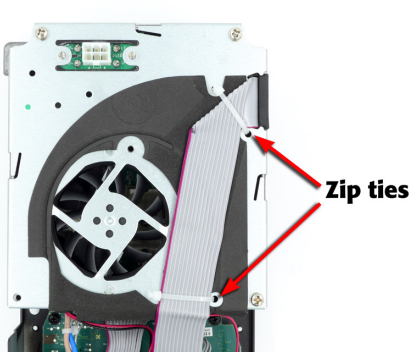

Figure 6.2.1 - Zip ties for ribbon
3. Cut and remove 2 zip ties that secure the ribbon cable to the metal cover. See Figure 6.2.1.
14. Route and lightly fold the large ribbon cable in the orientation shown in Figure 6.2.1.